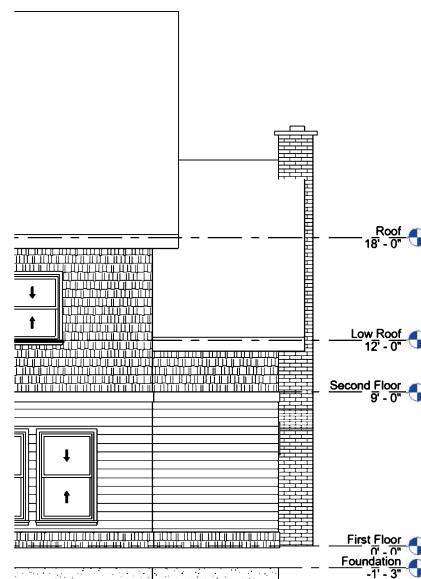

FIGURE 8-3.8 South elevation
- Switch to an elevation view to see the roof, the South elevation, shown in Figure 8-3.8.